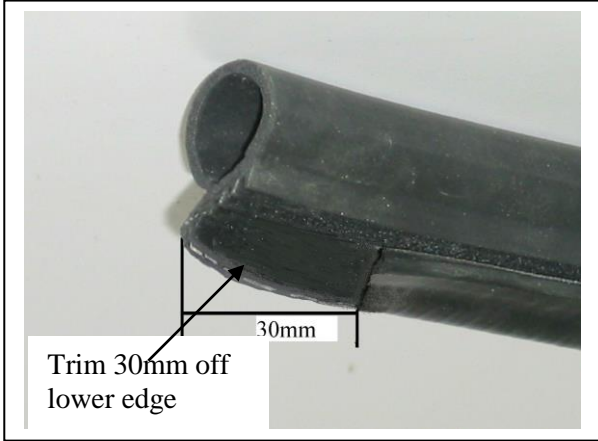
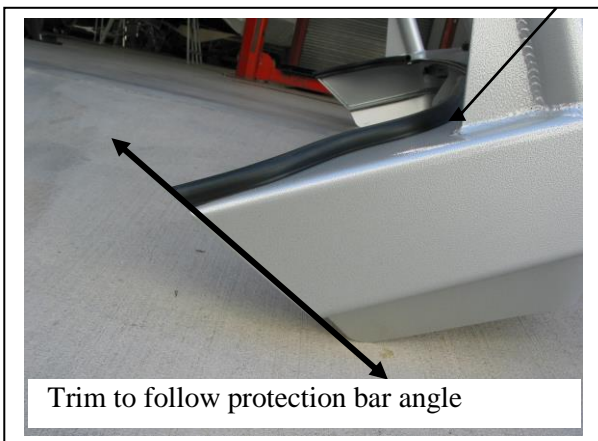

Figure 3
Figure 5
8. Attach infill trim (supplied) to top sides of ECB protection bar. **NOTE:** Trim 30mm off lower edge so trim will sit over end of protection bar. **See figures 3 and 4. Trim excess off end to follow protection bar. See figure 5. NOTE:** Seal any exposed edges of trim with silicone or similar to avoid corrosion of inner steel.